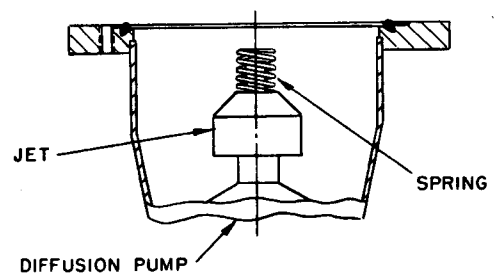

Figure 6-31. Position of Jet Top When Jet is Firmly Seated
9. Install the jet assembly, being sure that two of the five guide protrusions straddle the foreline opening, and that the jet assembly is seated as far down as shown in Figure 6-31.